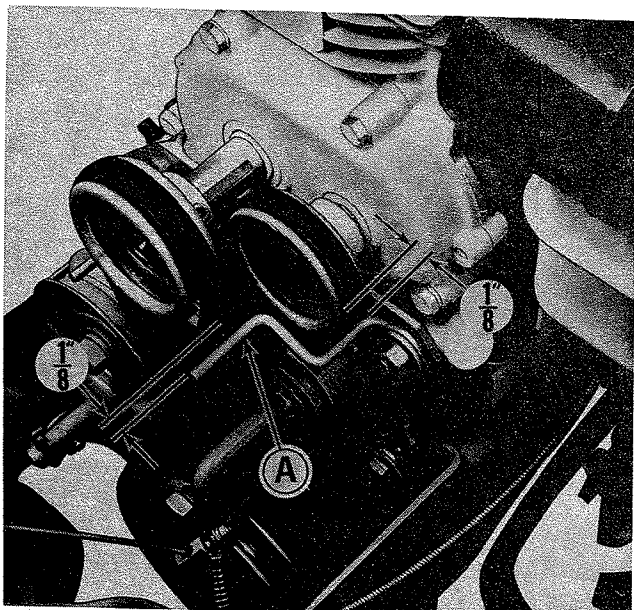

Figure 12. Belt stops shown with cover removed.
See figures 12 and 13. With the drive clutches engaged, the belt stops (A) should be about 1/8" from the belts. If adjustment is required, loosen the belt stop mounting bolts, and position the belt stops so that there is 1/8" clearance between them and the belt. Tighten the belt stop mounting bolts securely after the adjustment has been made.